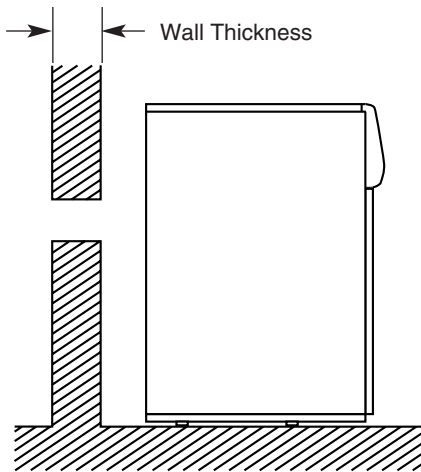

Fig. 23
1. Measure the wall thickness (Fig. 23). To this dimension add 295mm.